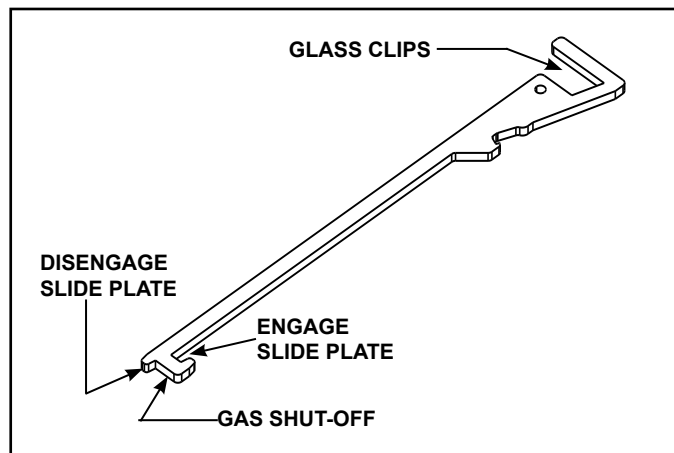

Figure 2.1 Multi-Purpose Tool
- See Figure 2.1 for multi-purpose tool functions and features.
- See Figure 2.1 for multi-purpose tool features / functions.